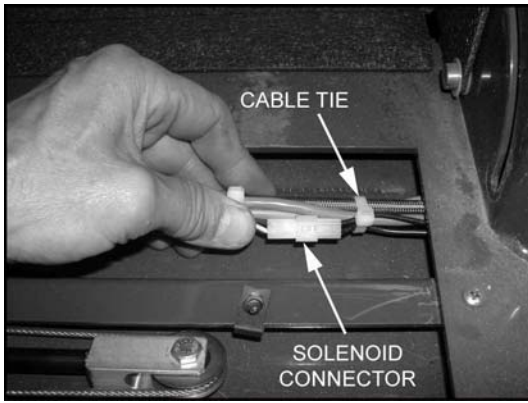

FIGURE 3-35
11. Refer to **Figure 3-35**. Disconnect solenoid connector.